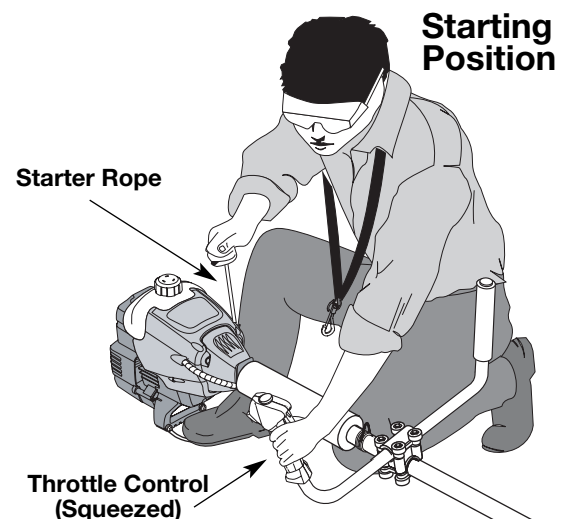

Fig. 17
WARNING: Avoid accidental starting. Make sure you are in the starting position when pulling the starter rope (Fig. 17). To avoid serious injury, the operator and unit must be in a stable position while starting.
5. With the unit on the ground, place one foot on the metal foot stand to hold the unit in place (Fig. 17). Press the throttle lock-out while you squeeze the throttle control. Pull the starter rope out with a **controlled and steady motion** 5 times.